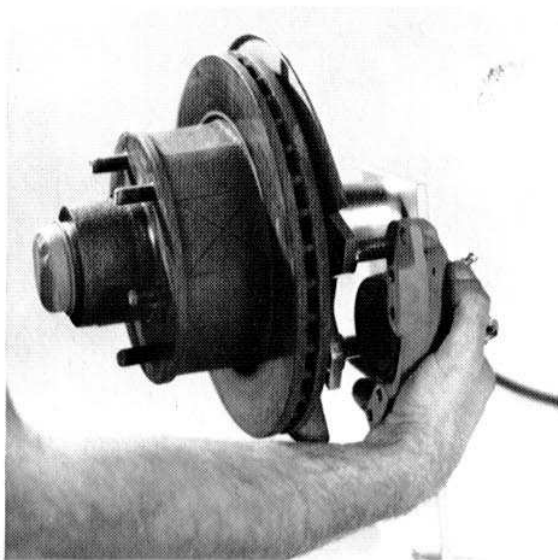

Fig. 30
4. Apply a small amount of dry film lube, preferably Molydisulfide base, to mounting studs (See Fig. 30).
7. Slide brake housing assembly off of the mounting studs. Lightly tap with plastic or rubber head hammer if necessary. (See Fig. 30)
8. If mounting bracket was not removed from spindle place housing assembly on mounting studs. Be sure studs are clean and apply a dry film lubricant (preferably a Molydisulfide base) to mount in studs. (See Fig. 30)